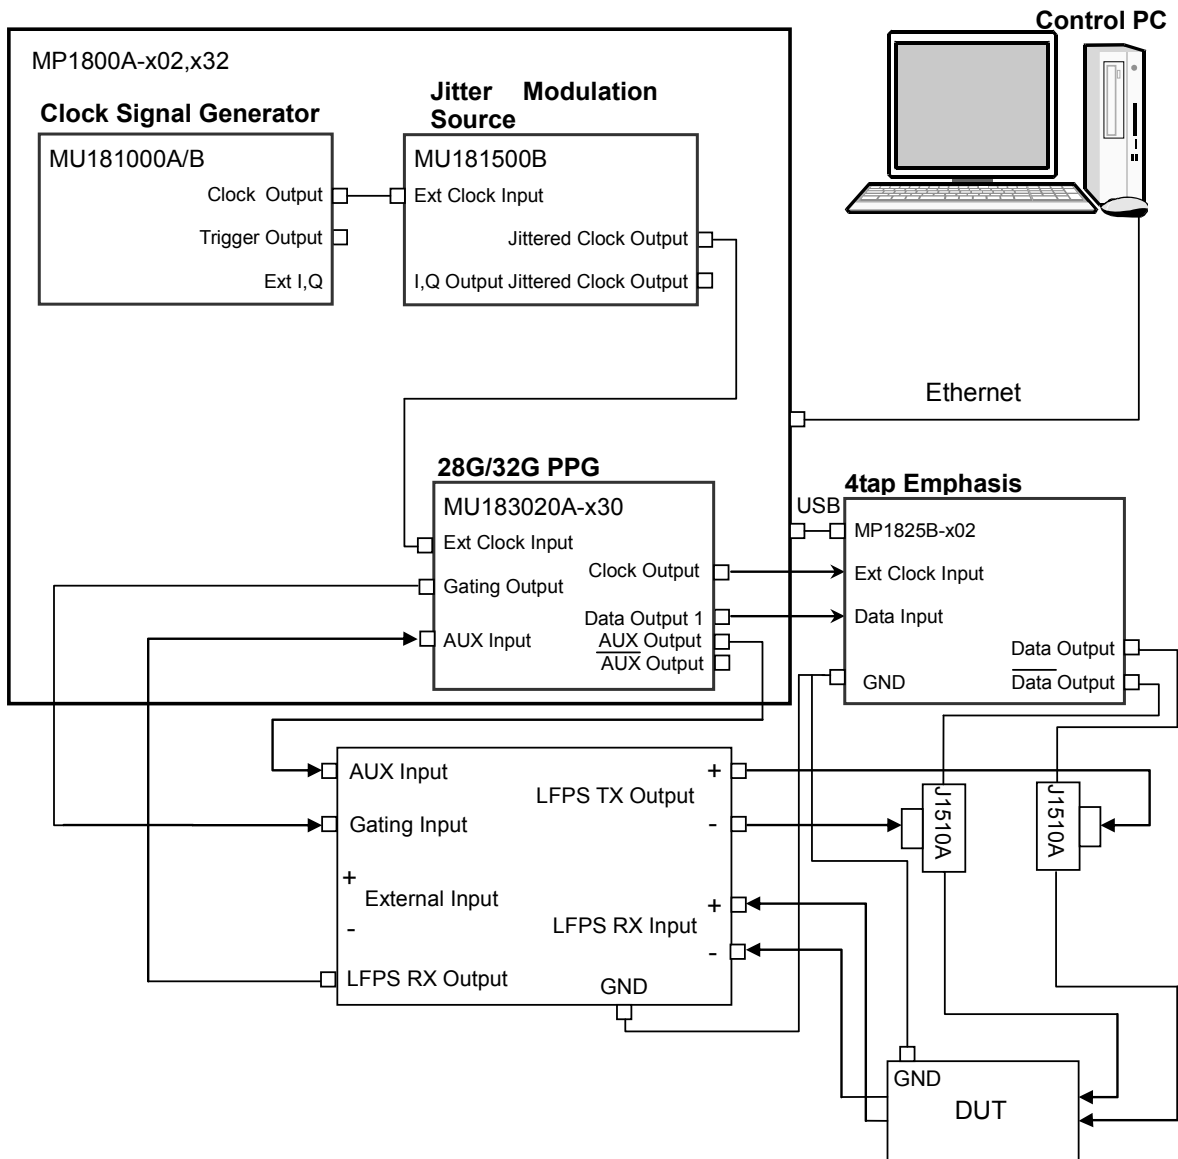

Figure 3.4-1 USB Link Sequence Connection Using USB Test Adapter
10. Connect the J1510A and the LFPS TX Output connector of the USB Test Adapter with a 30 cm coaxial cable (J1624A) as in Figure 3.4-1.
11. Connect the J1510A and DUT with 80 cm coaxial cable (J1612A) as in Figure 3.4-1. (2 connections)